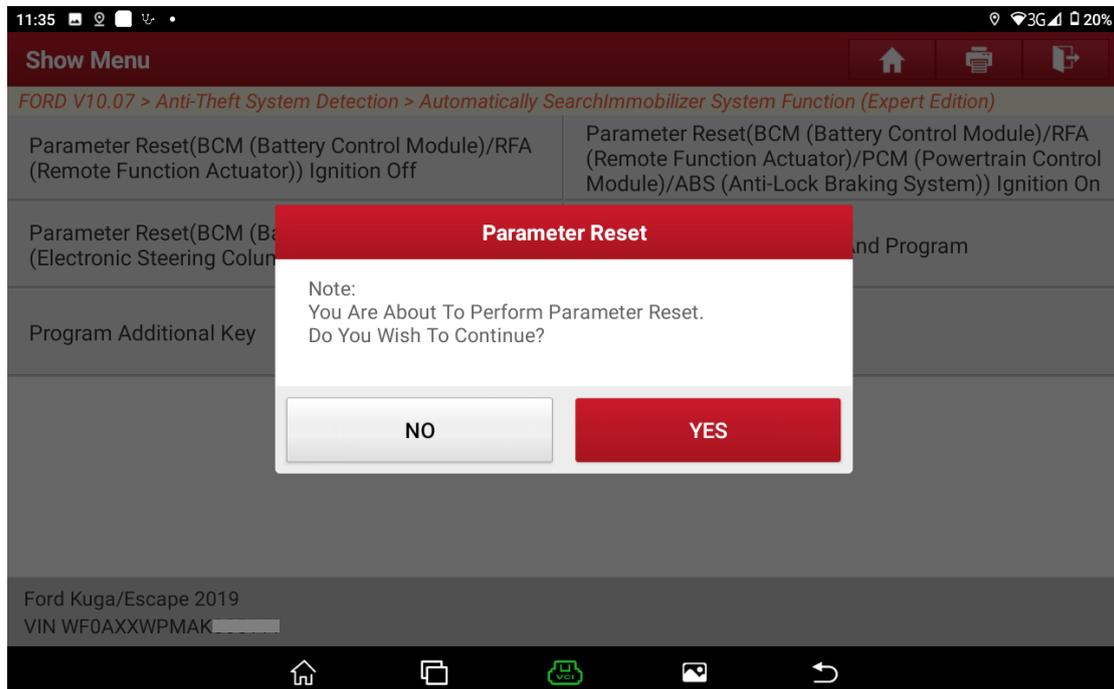

Figure 12
10. Prompt that parameter reset is about to be performed. See Figure 12.